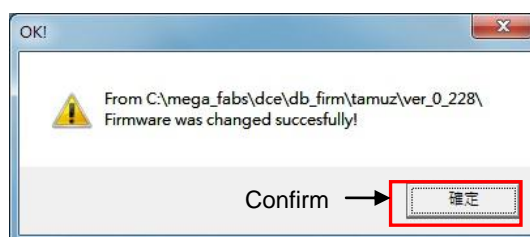

Fig. 4-29
- Step 4. After the firmware is updated, the window of Fig. 4-29 appears. Click the **Confirm** button.